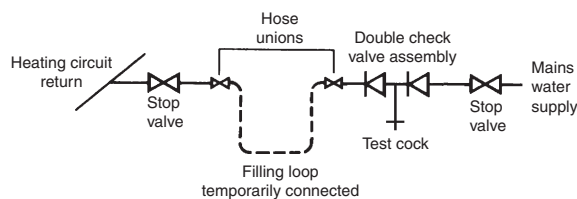

Fig. 3.6
3.8 FILLING THE CENTRAL HEATING SYSTEM - Fig. 3.6
Provision must be made for filling the system. This is done by the use of a filling loop. See Fig. 3.6. A filling loop is not supplied with this boiler.
Filling of the system must be carried out in a manner approved by the local Water Undertaking. Where allowed, the system may be filled via a temporary connection as shown in Fig. 3.6. After filling, always disconnect the flexible hose of the filling loop.